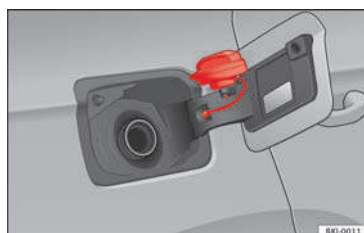

Fig. 52 Fuel tank flap with tank cap attached.
- Place it in the space on the hinge of the open flap »» **Fig. 52**.